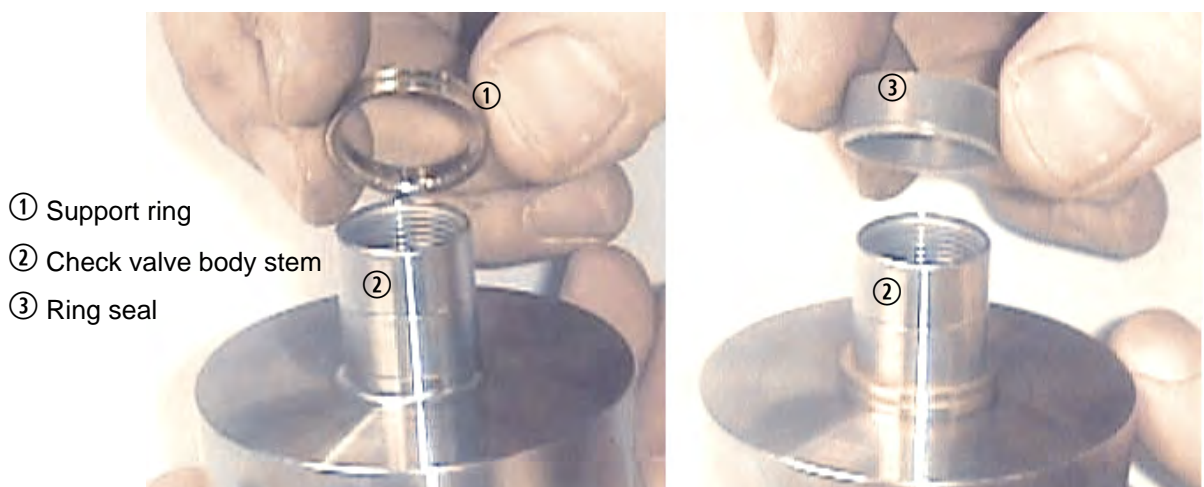

Figure 6-26
8. Begin assembling the **inlet side** of the **check valve body assembly**. This is the side with the threaded pocket and two holes (Figure 6-26).
9. Install **support ring** ①, with the small notch facing down, over outside of the **check valve body stem** ② on the inlet side.
10. Install **ring seal** ③ over outside of the **stem**.